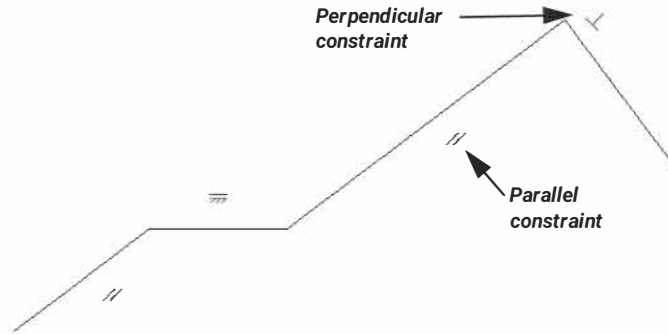

Figure 4–6
- ⊥ (Perpendicular) constrains the second linear element to rotate 90 degrees from the angle of the first linear object. Select a linear object and then a second linear object. The objects take on the angle or right angle of the first object, depending on the selected constraint. Examples of these constraints are shown in Figure 4–6.